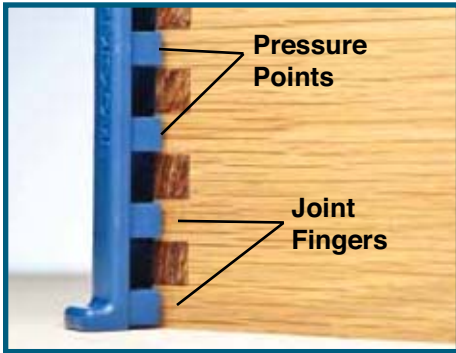

Fig. 1
1. Glue and assemble the box. Place one caul at a corner of the box so the caul's pressure points line up with the fingers of the joint. **Fig. 1.**